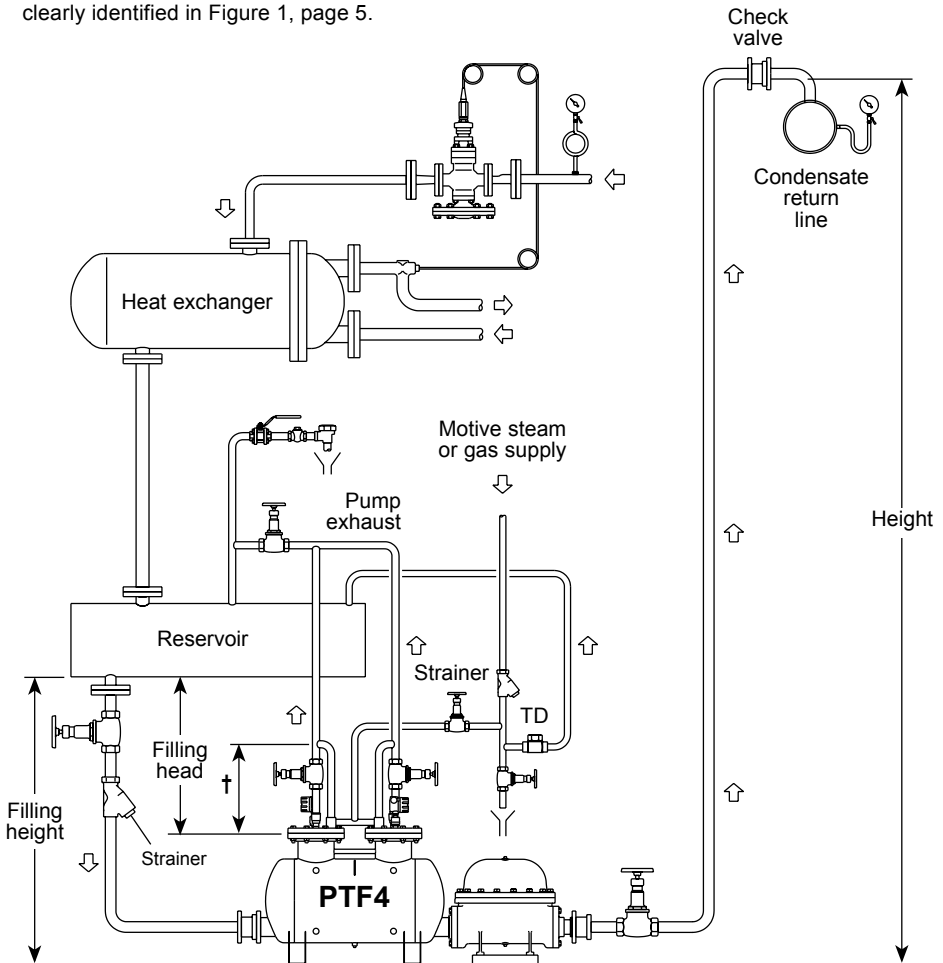

Fig. 3 Closed loop system with trap
3.7 Installation - Closed loop systems (Figure 3)
- 3.7.1 Install the pump physically below the equipment being drained with the exhaust connection vertically upwards. The pump should be installed with the recommended filling head (the vertical distance between the top of the pump and the bottom of the reservoir) as shown in Figure 3. For other filling head variations, see the Capacity Table on TI-P135-13.
- 3.7.2 To prevent equipment flooding during the pump discharge stroke, a reservoir pipe should be installed in a horizontal plane ahead of the pump as shown in Figure 3. For the correct reservoir sizing, refer to Table 2 'Inlet reservoir piping'. All inlet line fittings must be fully ported. If desired, overflow piping can be installed using a properly sized float and thermostatic trap. The trap inlet should be located at the maximum allowable water level, at or near the top of the reservoir, and it should discharge to a suitable drain.
3.7.7 If at any time the backpressure against the pump is less than the pressure in the equipment being drained, a properly sized float and thermostatic trap must be installed between the pump and discharge check valve as shown in Figure 3.